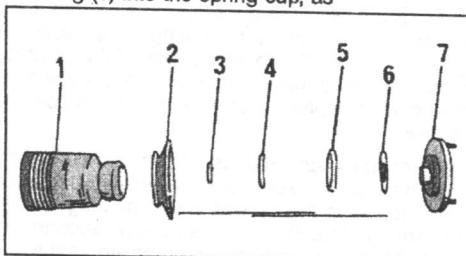

Fig. 5.6. — The parts on the upper end of a spring strut. Items 3, 4, 5 and 6 must be replaced when a spring strut has been dismantled.
The rebound stop, the rubber protector and the washer, the needle thrust bearing, the seal, a second needle thrust bearing and the spring strut bearing must be replaced if no longer in good condition. If a spring strut is dismantled to replace a spring it is always advisable to replace the items 3, 4, 5 and 6 in Fig. 5.6. Take care not to damage the smooth surface of the piston rod when the spring strut is stored for later assembly.
- Place the upper spring cup onto its edge (upright position) and, using a small chisel or a screwdriver and knock the needle thrust bearing (6) in Fig. 5.6 out of the cup (7). Now place the spring cup with the smaller end onto a flat surface and drive out the bronze bush (3). A socket of suitable diameter is suitable for this operation.
- Push the new needle thrust bearing (6) into the spring cup, as